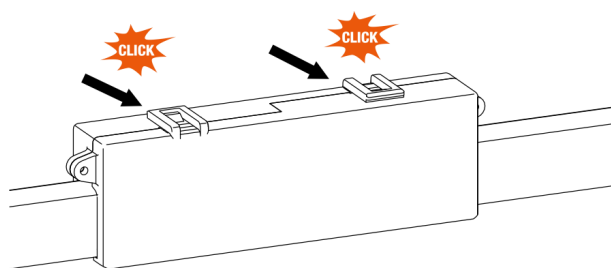
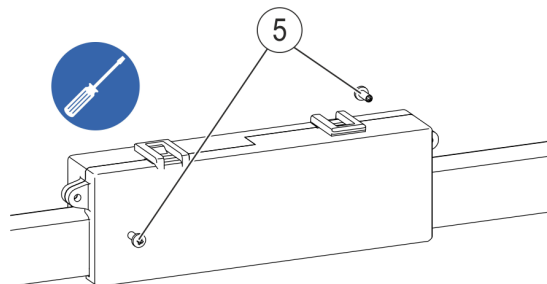

Fig. 80: Click the connector cap halves into place
Fig. 81: Screw the connector cap halves together
- Hook the connector cap halves (Pos. 4) below the rail and close them above the rail joint (see Fig. 80). Screw the connector cap halves to the side plastic tabs (see Fig. 81) with the two self-tapping screws (Pos. 5).